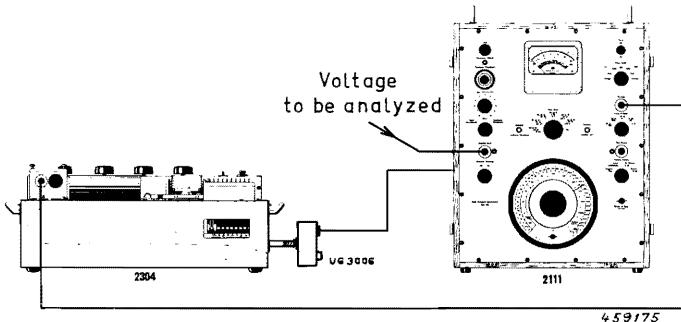

Fig. A. 4. Measuring arrangement for automatic recording of voltage analyses.
1. Connect the instrument as shown in Fig. A 4, and set the switch marked "Automatic Switching" to "Off".